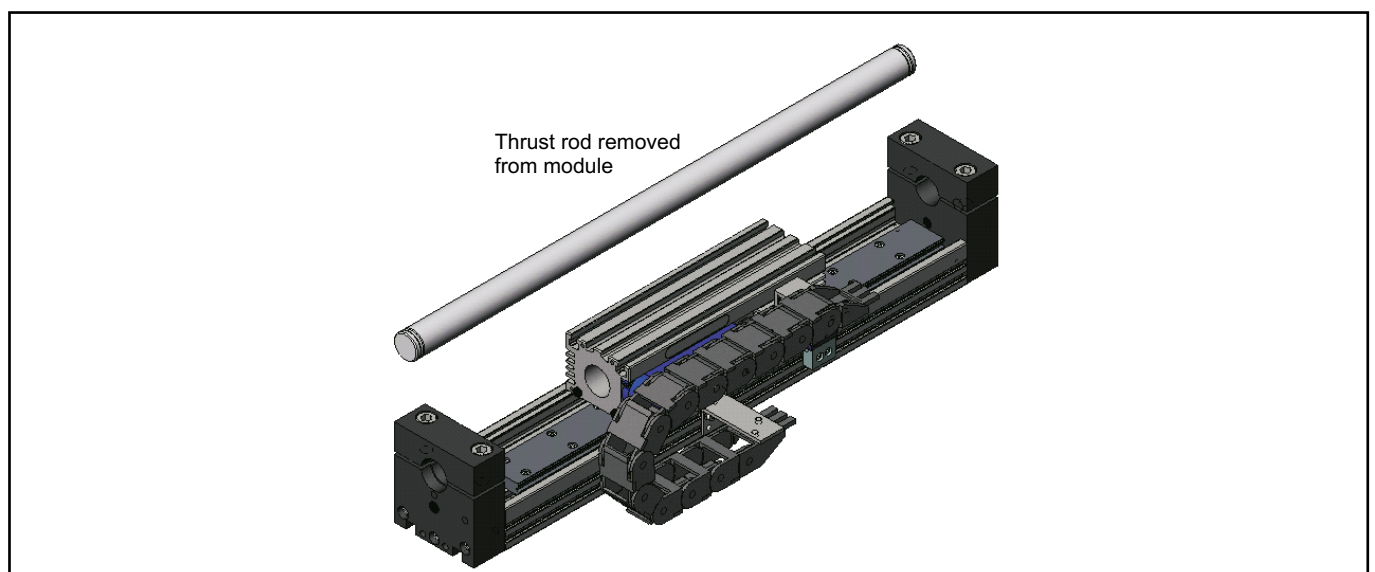

Figure 3.14
- Carefully slide the thrust rod out through the thrust rod supports and forcer (Figure 3.13) until it is clear of the module assembly, see Figure 3.14.